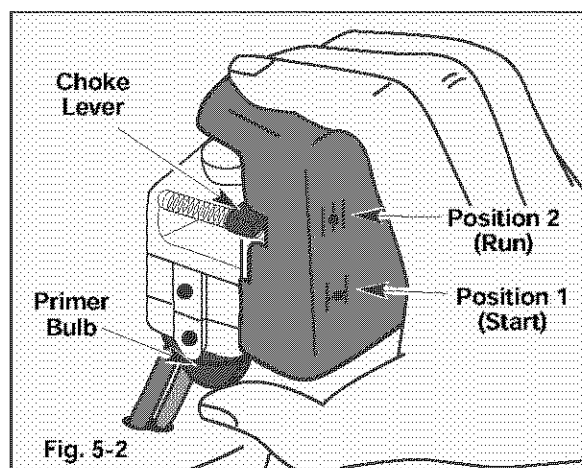

Fig. 5-2
3. Fully press and release the primer bulb 10 times, slowly. Some amount of **fuel should be visible in the primer bulb** and fuel lines (Fig. 5-2). If you can't see fuel in the bulb, press and release the bulb as many times as it takes before you can see fuel in it.
4. Place the choke lever in Position 1 (Start) (Fig. 5-2).